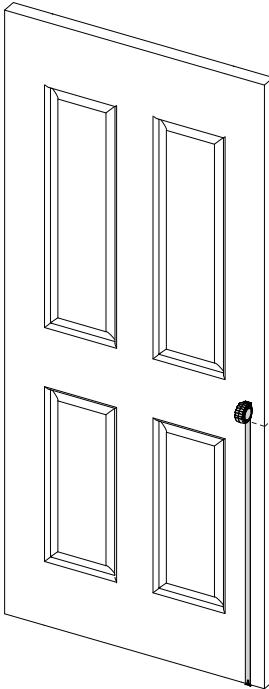

Figure 1.
- 1.1. Mark the edge of our door at the desired height of your lever. (Figure 1)